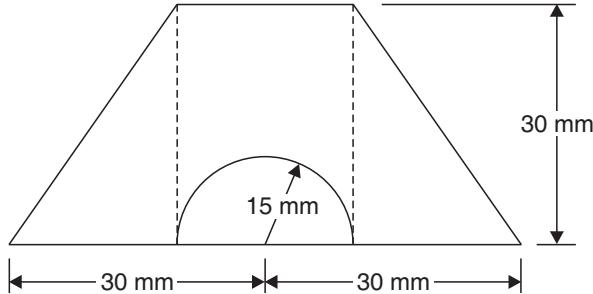

Fig. 8.27
**Example 8.8.** Find the centroidal moment of inertia of the shaded area shown in Fig. 8.27.